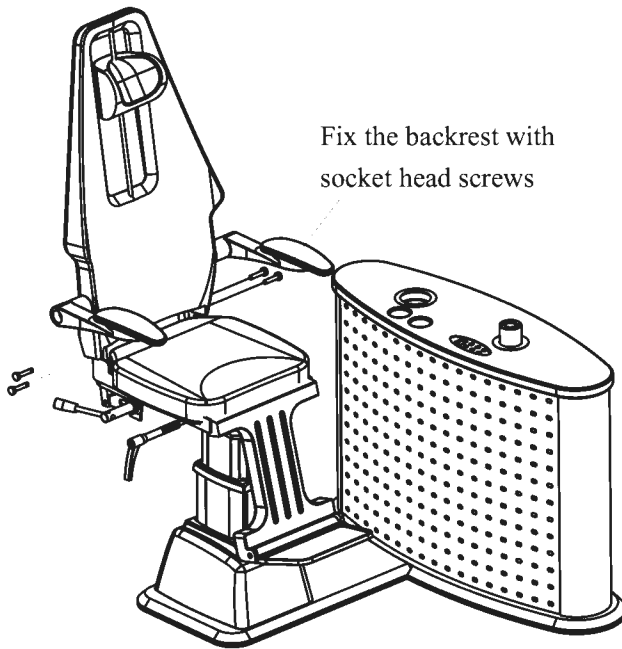

Figure.2
4) Installation of chair: Correspond the holes on the chair and the chair stand, fix them with screws. (See Figure.2)